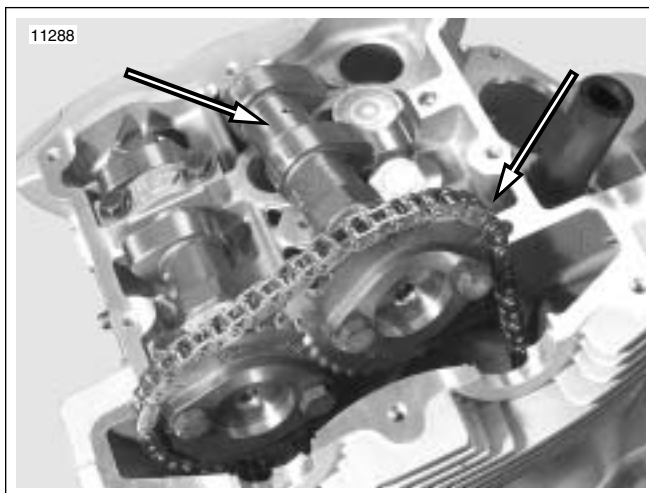

Figure 1-85. Move Cam Aside With Chain Engaged
- See Figure 1-85. Carefully move cam and drive gear aside. Keep cam drive gear and chain engaged.